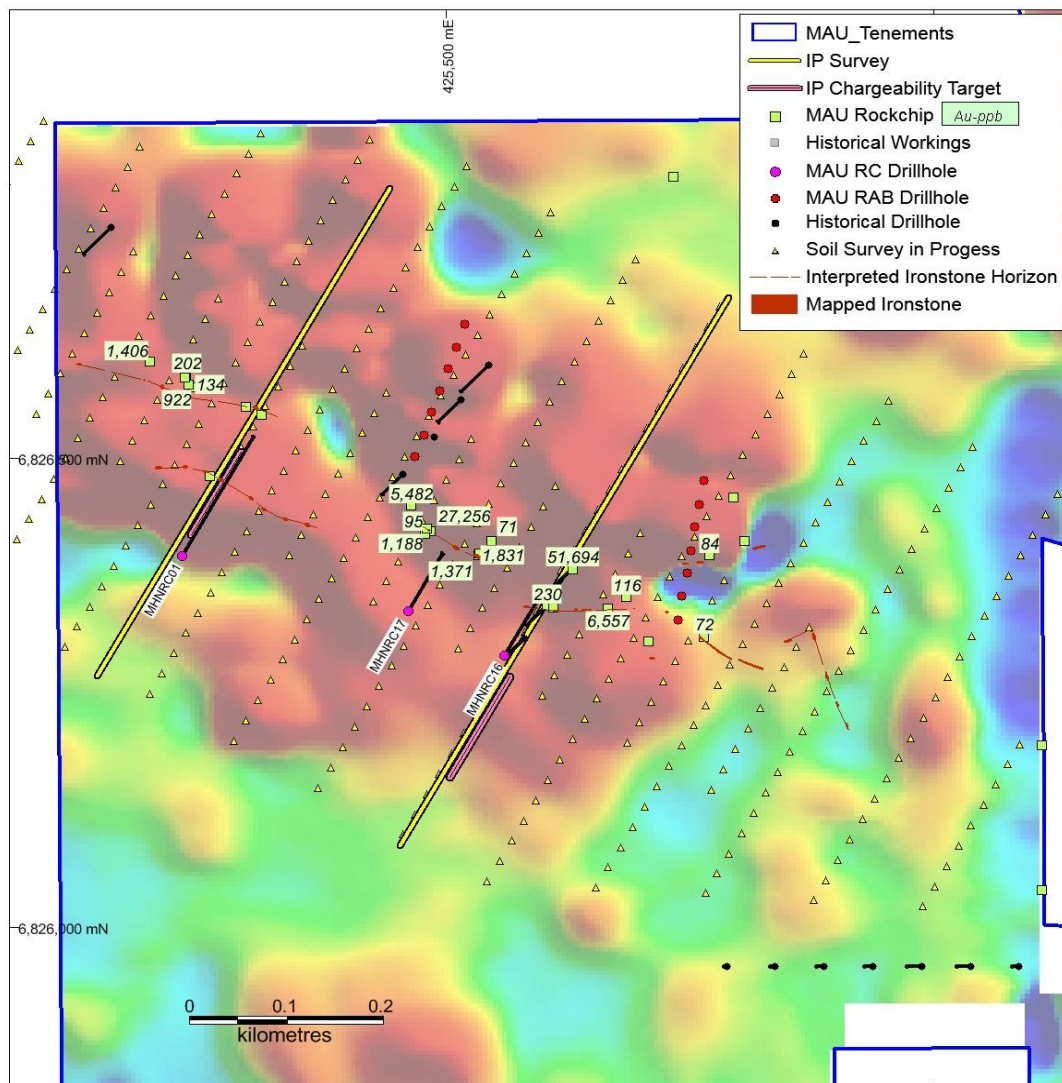

Figure 4. Hawks Nest E38/3127 HN4 target area on ground magnetics showing anomalous rock chip samples and newly mapped quartz ironstone
- Rock chip sampling at HN4 has shown highly anomalous values ranging from 0.07 to 51.7g/t Au within two cherty ironstone (BIF) horizons, one of which has been traced intermittently for about 750m with evidence of old prospecting pits along its length. Eight of the 17 samples had over 1g/t Au (Figure 4). Further infill soil sampling is currently being carried out.
Drill hole MHNRC01 was targeted at an IP chargeability anomaly on the SW margin of the magnetic anomaly (Figure 4). A sequence of basalts intruded by porphyries were encountered; however, there were no significant gold intersections. Disseminated pyrrhotite in the basalts appears to explain the IP anomaly.
Drill holes MHNRC16 and 17 (Figure 4) were targeted at the down dip extension of the gold diggings (the historic drilling is interpreted to have been drilled in the wrong direction and parallel to the dip of mineralised quartz-ironstone). Both holes failed to intersect significant gold mineralisation.
Geological mapping has identified at least two cherty ironstone (BIF) horizons, one of which has been traced intermittently for about 750m with evidence of old prospecting pits along its length (Figure 4). Rock chip sampling has shown highly anomalous values ranging from 0.071 to 51.7g/t Au. Eight of the 17 samples had over 1g/t Au (Figure 4).